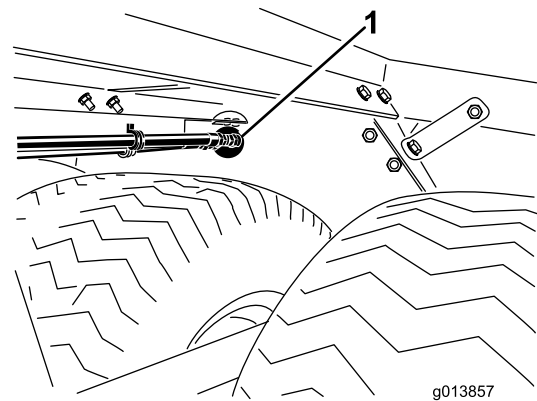

Figure 2
7. Ensure that the inlet and outlet fittings and the hose guide mounting bracket all fit cleanly within the round holes in the chassis rear wall (Figure 2).